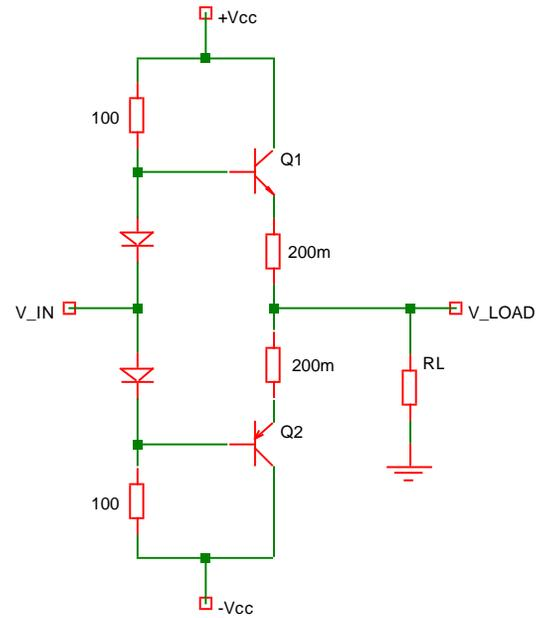

Fig. 5:  $V_{IN}$  is a 12 VPP sine wave.
5) Consider the push-pull stage shown in Fig. 5.  $V_{IN}$  is a 12VPP sine wave. The power supplies are  $\pm V_{CC} = \pm 8V$ . Both diodes have  $V_F = 0.7V$ . Both power transistors have  $V_{BE,ON} = 1.2V$ ,  $V_{CE,SAT} = 1V$ , and  $\beta = 40$ . Both transistors have a power rating of 2W @  $T_A=25^\circ C$  and a derating factor of 16 mW/ $^\circ C$ .